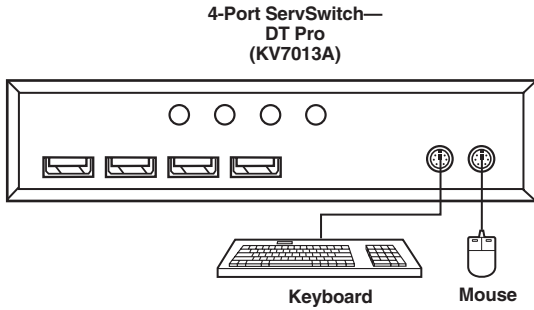

Figure 3-1. Keyboard and mouse connections.
2. Connect your PS/2 keyboard and PS/2 mouse directly to the PS/2 keyboard and mouse ports (labeled with keyboard and mouse symbols) on the front of the ServSwitch. See Figure 3-1.